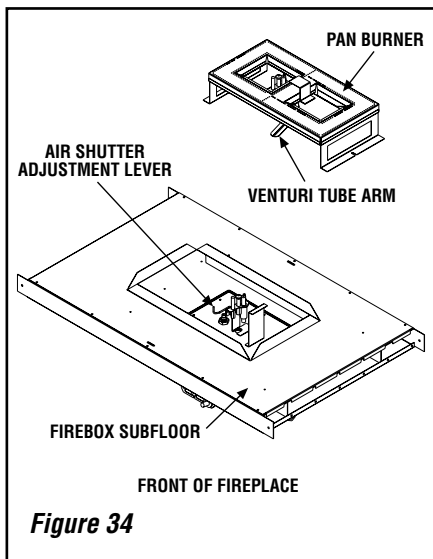

Figure 34
Step 3. Referring to **Figure 34**, remove the burner.
Step 8. (Refer to **Figure 34**)
Ensure that the arm of the venturi of the burner is hooked onto the air shutter adjustment lever (refer to *Figure 34 on Page 25*). The primary air opening can be adjusted by rotating the adjustment lever from beneath the firebox floor. Refer to *Figure 31 on Page 21* for the recommended minimum primary air opening setting.